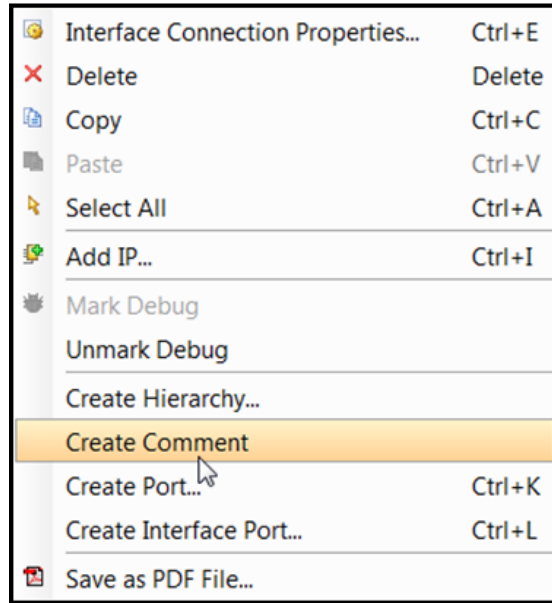

Figure 22: Create Comment Option
2. Right-click anywhere in the IP integrator canvas and add a title and/or comment to the design using the Create Comment option (Figure 22).